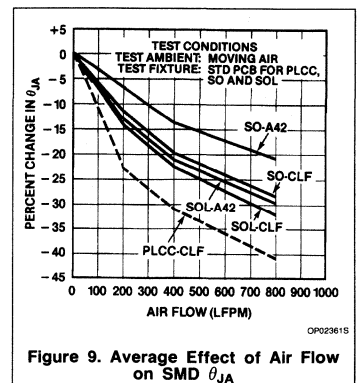

Figure 9. Average Effect of Air Flow on SMD  $\theta_{JA}$
The average lowering effect of air flow on SMD  $\theta_{JA}$  is shown in Figure 9.
3. Determine  $\theta_{JA}$  @ 0.5W in 200 LFPM air flow from Average Effect of Air Flow on SMD  $\theta_{JA}$ , Figure 9.
From Figure 9: